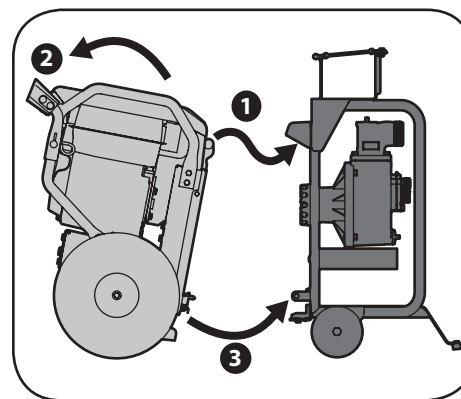

Figure 4-3
2. Roll the FLEX™ Power Base forward and tip it up, engaging the top part of the water pump attachment with the handle mount provided on the FLEX™ Power Base (1 of Figure 4-3).
3. Tip the FLEX™ Power Base backwards to engage the two bottom connection points (2 and 3 of Figure 4-3).